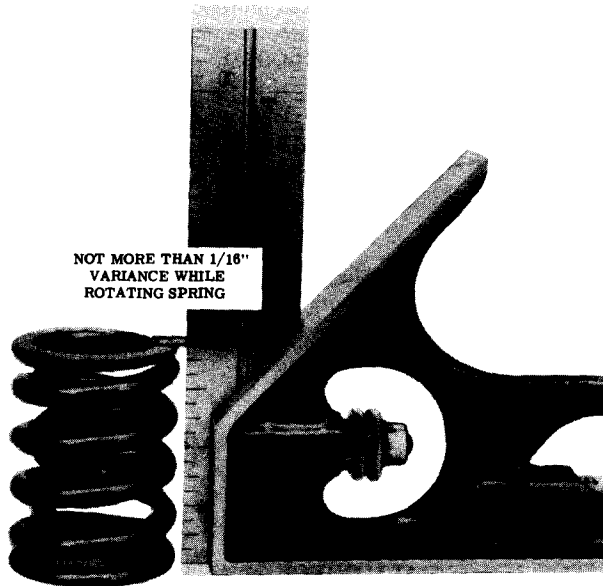

Figure 23—Checking Valve Spring
a. Occasionally this noise can be eliminated by rotating the valve spring and valve. Crank engine until noisy valve is off its seat. Rotate spring. This will also rotate valve. Repeat until valve becomes quiet. If correction is obtained, check for an off square valve spring. If spring is off square more than 1/16" in free position, replace spring (figure 23).